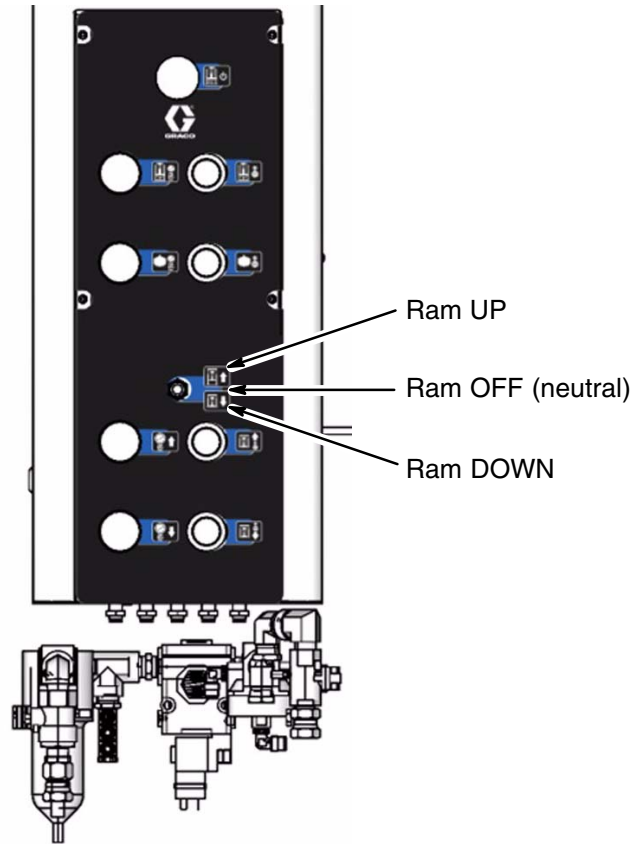

Fig. 8
5. Use the ram hand valve lever (Fig. 8) to raise the ram to the UP position. If the ram goes down instead of up, check your hydraulic line and air line connections, you may have incorrectly connected the lines.